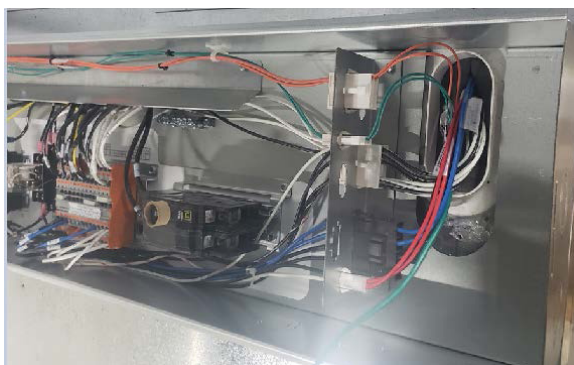

Fig. 61 Connect harnesses to their mates inside junction box
6. Plug the unique case harness connectors into their corresponding mates inside of the box (Fig. 61).